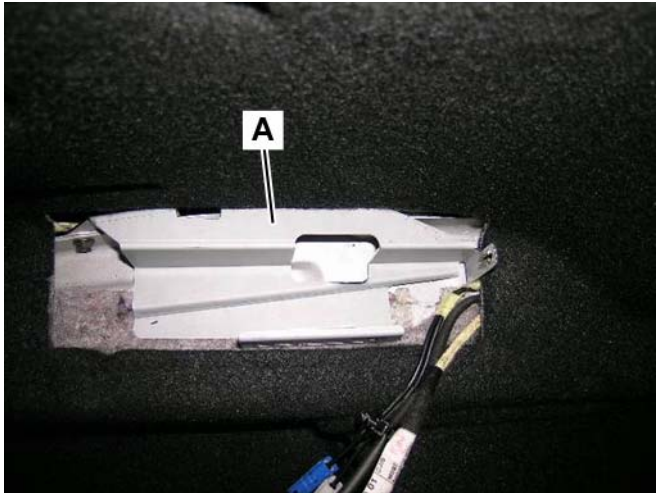

Figure 11
6. Push back the insulating material in front of the SDARS bracket (A, Figure 11) as shown in Figure 11.